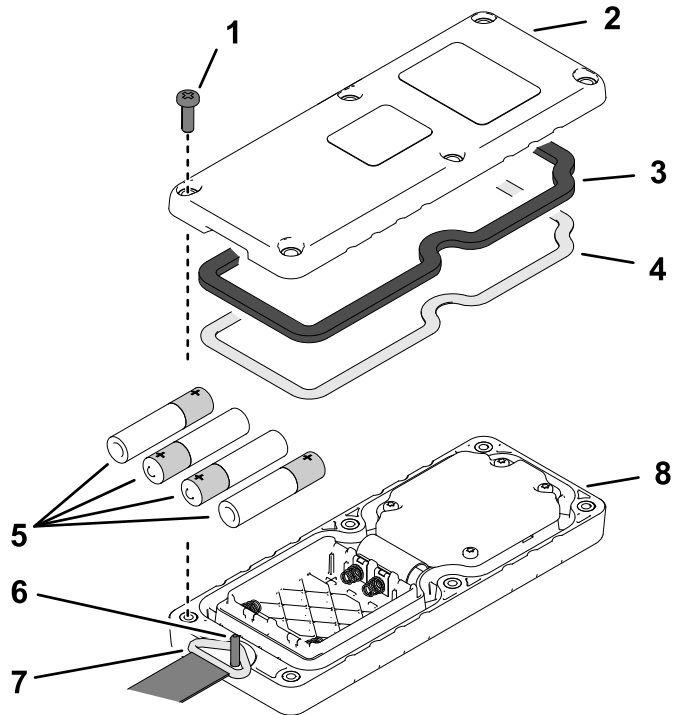

Figure 7
1. Remove the 6 screws securing the cover halves of the handheld remote together, and remove the back cover (Figure 7).
3. Ensure that the steel gasket and rubber seal (Figure 7) are seated in the channel in the front cover half.
4. Align the lanyard ring over the lanyard pin (Figure 7).
5. Assemble the back cover to the front cover with 6 screws (Figure 7).